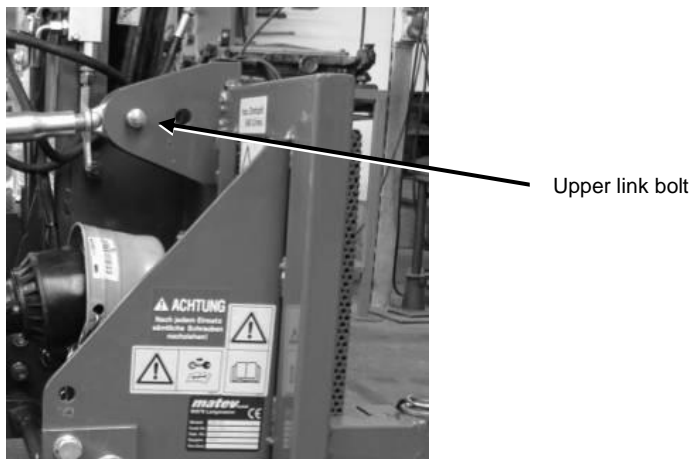

Fig. 33: Upper link on the CLS
7. Fasten the upper link to the CLS with the upper link bolt (see Fig. 33).